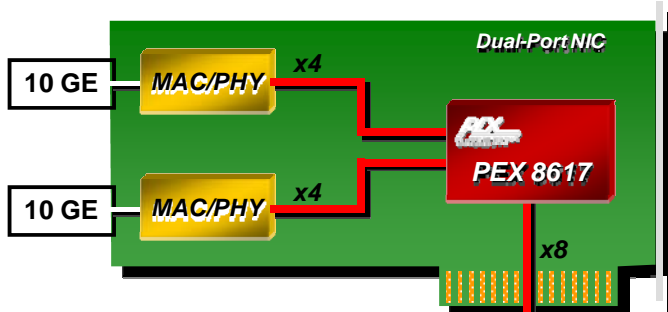

Figure 4. 10GE NIC Fan-Out
The PEX 8617 can also be utilized in communications applications such as Network Interface Cards (NICs). NICs, like the one shown in Figure 4, can utilize the PEX 8617 for its fan-out capabilities. In the example below, the PEX 8617 is being used on a Dual-port 10-Gigabit Ethernet (GE) NIC card. The PEX 8617 utilizes a x8 link to connect to the host and two x4 downstream links to fan-out to the 10GE ports. The peer-to-peer communication feature of the PEX 8617 allows the endpoints to communicate with each other without any intervention or management by the host.